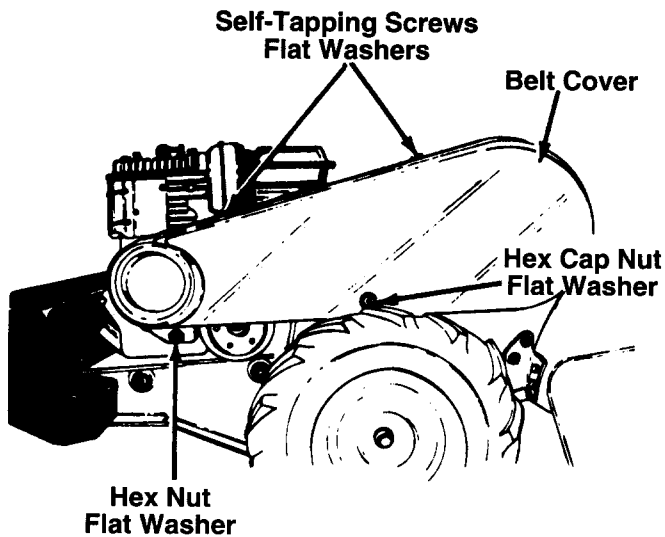

FIGURE 17.
2. Remove the belt cover from the left side of the tiller as follows. See figure 17.